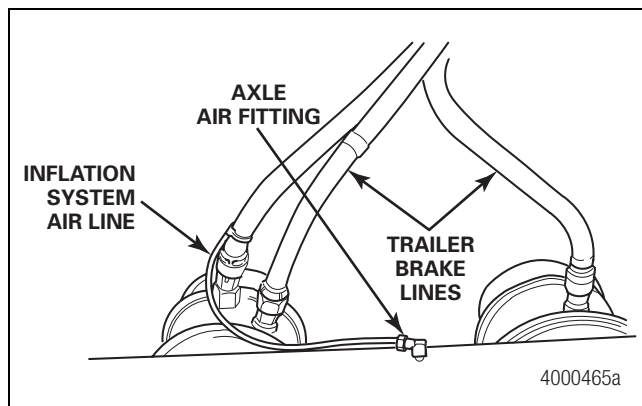

Figure 2.61
3. Route the air lines from the tee to the axle air fittings. Provide sufficient slack in the lines to allow for suspension movement. Use the slack in the existing trailer brake lines as a guide. Figure 2.61. Hand-tighten the air line compression fittings, then use a 9/16-inch wrench to tighten them approximately one additional turn to obtain an airtight seal.